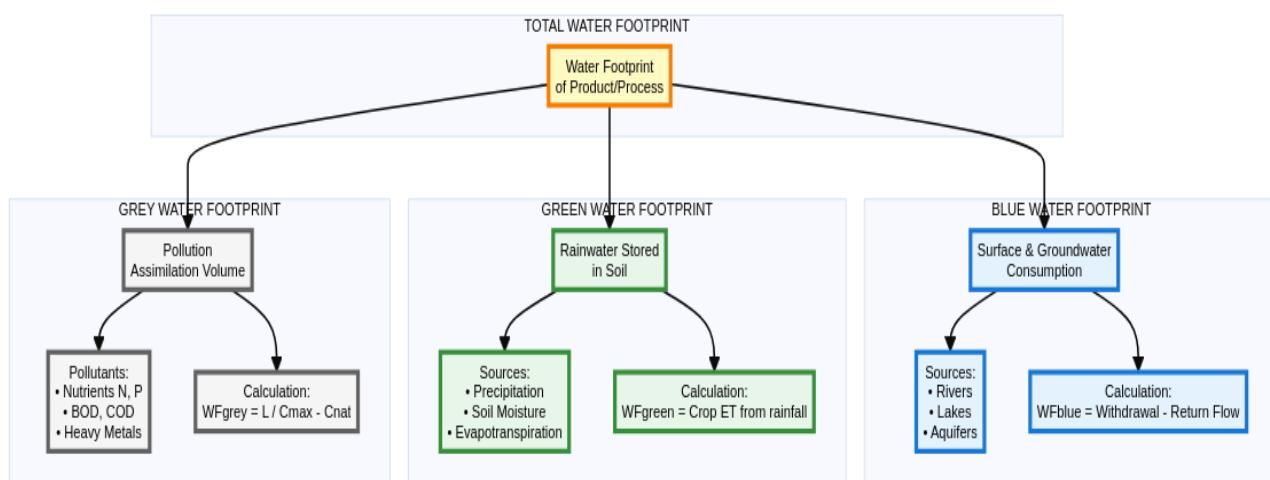

Figure 1.2: Blue-Green-Grey Water Components
**Figure 1.2:** Components of the water footprint: blue water (surface and groundwater), green water (soil moisture from precipitation), and grey water (pollution assimilation volume).